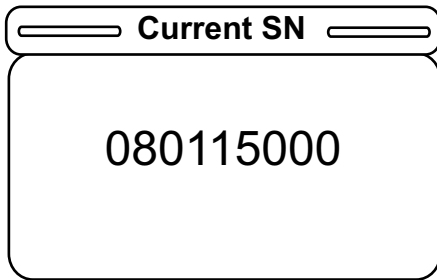

Figure 55 – Current SN screen
28. After you save the serial number and enter the Current SN, the Current SN screen displays (Figure 55). The entered serial number displays until you press Enter on the footboard control panel.